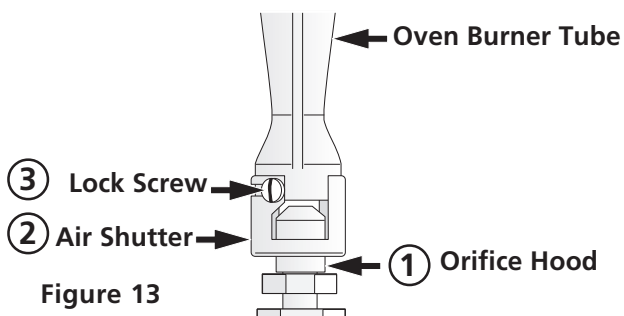

Figure 13
If the flame is yellow, increase air shutter opening size (see "2" in Figure 13). If the entire flame is blue, reduce the air shutter opening size.
To adjust frame loosen lock screw (see "3" in Figure 13), reposition air shutter, and tighten lock screw. Replace oven bottom.
The approximate flame length of the burner is 1 inch (distinct inner cone of blue flame). To determine if the broil burner flame is proper, set the oven to broil. If flame is yellow, increase air shutter opening size (see "2" in Figure 13). If the entire flame is blue, reduce the air shutter opening size. To adjust, loosen lock screw (see "3" in Figure 13), reposition air shutter, and tighten lock screw.
4. Remove template and place bracket on floor. Line up holes in bracket with marks on floor and attach with 4 screws provided. Bracket must be secured to solid floor (Figure 13). If attaching to concrete floor, first drill 3/16" (0,48 cm) dia. pilot holes using masonry drill bit.